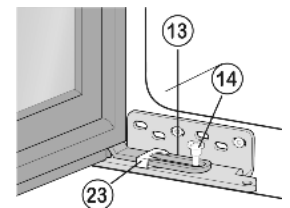

Fig. 19
- ▶ Screw the stop Fig. 19 (13) firmly into place, through the white slide Fig. 19 (23), using the screw Fig. 19 (14) (with 4 Nm).